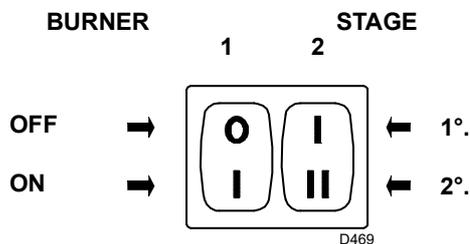
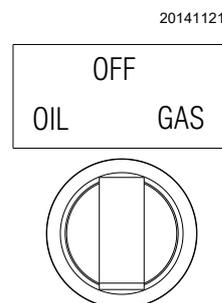

Fig. 33
Fig. 34
Keep the burner operating at 1st stage by setting the switch 2)(Fig. 33) to the 1st stage position. The fan damper can be adjusted by operating the orange level of the servomotor ("Servomotor adjustment" on page 32).
Turn switch 2)(Fig. 33) to the 2nd stage position. The fan damper can be adjusted by operating the red level of the servomotor ,("Servomotor adjustment" on page 32).
Start the burner by closing the remote controls, with the switch 1)(Fig. 33) in the "ON" position and with the fuel selector switch set to "OIL" (Fig. 34).
The pump can be considered to be primed when the light oil starts coming out of the screw 3)(Fig. 23 on page 23). Stop the burner: set switch 1)(Fig. 33) to "OFF" and tighten the screw 3).
- switch 1)(Fig. 33 on page 29) in "**BURNER ON**" position;
- switch 2)(Fig. 33 on page 29) in "**1st STAGE**" position;
Turn switch 2)(Fig. 33 on page 29) to the 2nd stage position: the servomotor will open the air damper on the value previously set for the light oil and will control the opening of the 2nd stage VR2 gas valve.
Turn switch 2)(Fig. 33 on page 29) to the 1st stage position: the servomotor will close the air damper on the value previously set for the light oil and will control the opening of the 1st stage VR1 gas valve.